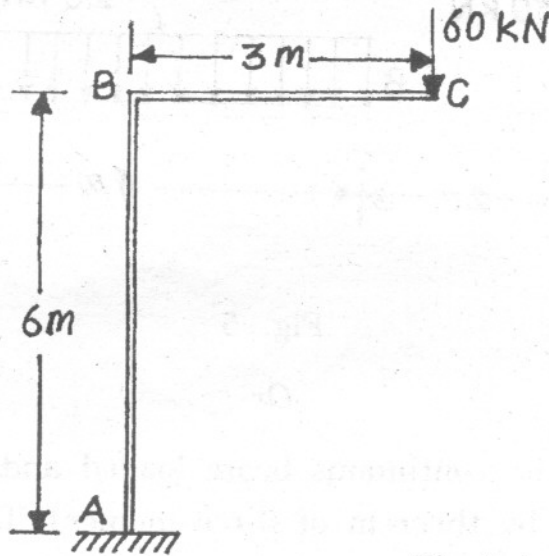

Fig. 3
- (c) Determine the vertical displacement under the point load at C for the frame shown in Fig. 3. by Castigliano's first theorem. [6]